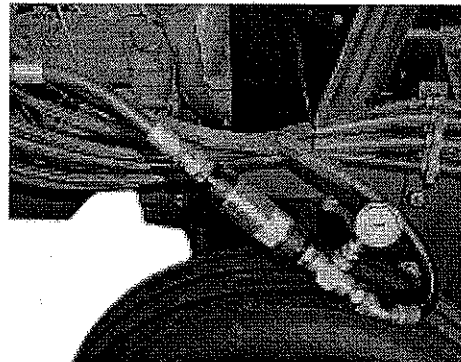

figure 40
1. Place a pressure gauge and flow gauge between the filter base and the front tube on the brush hood (figure 40).